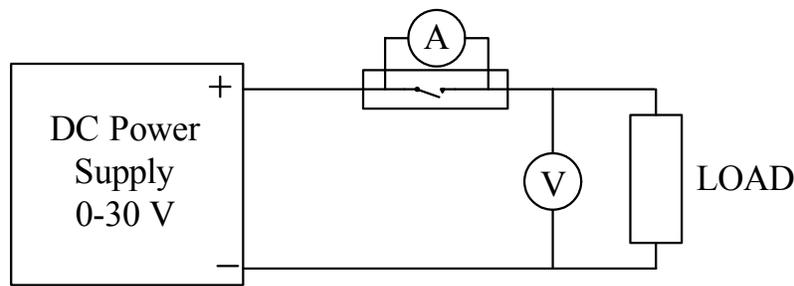

Figure 1.1: Test circuit
- 1) Connect the circuit as shown in Figure 1.1. Set load resistance at **50 ohms**.